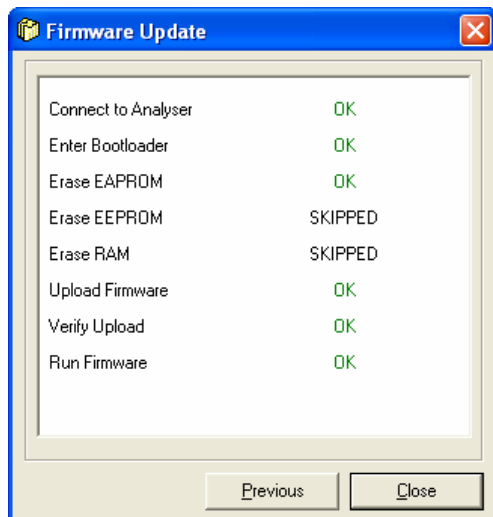

Figure 41 Data Transfer Window.
4. Remove tubing from exhaust fan and place sample tubing on main sample inlet as shown in Figure 41.